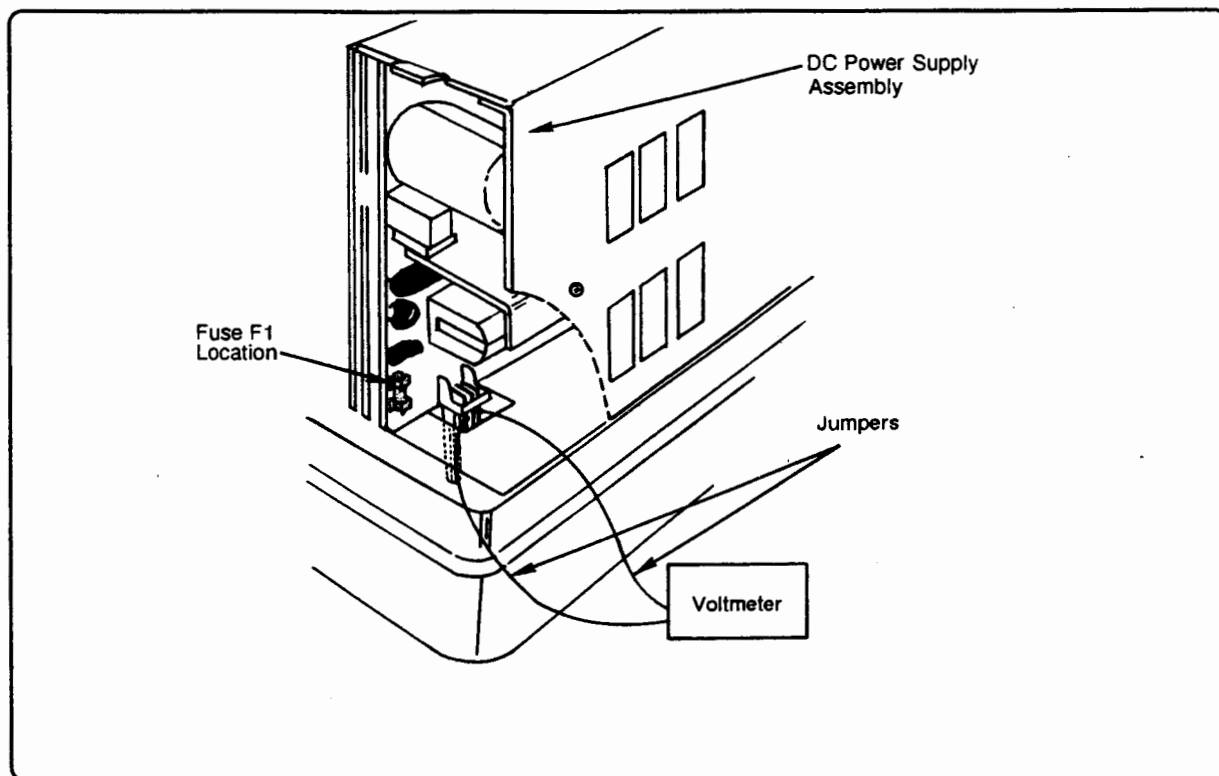

Figure 7-3. Fuse F1 Location
1. Check Fuse F1 on the DC Power Supply Assembly. (See Figure 7-3.)
2. Remove the printer's Front Support Plate. Connect a voltmeter to J502-1 and to J502-3 of the DC Power Supply Assembly (see Figure 7-3).